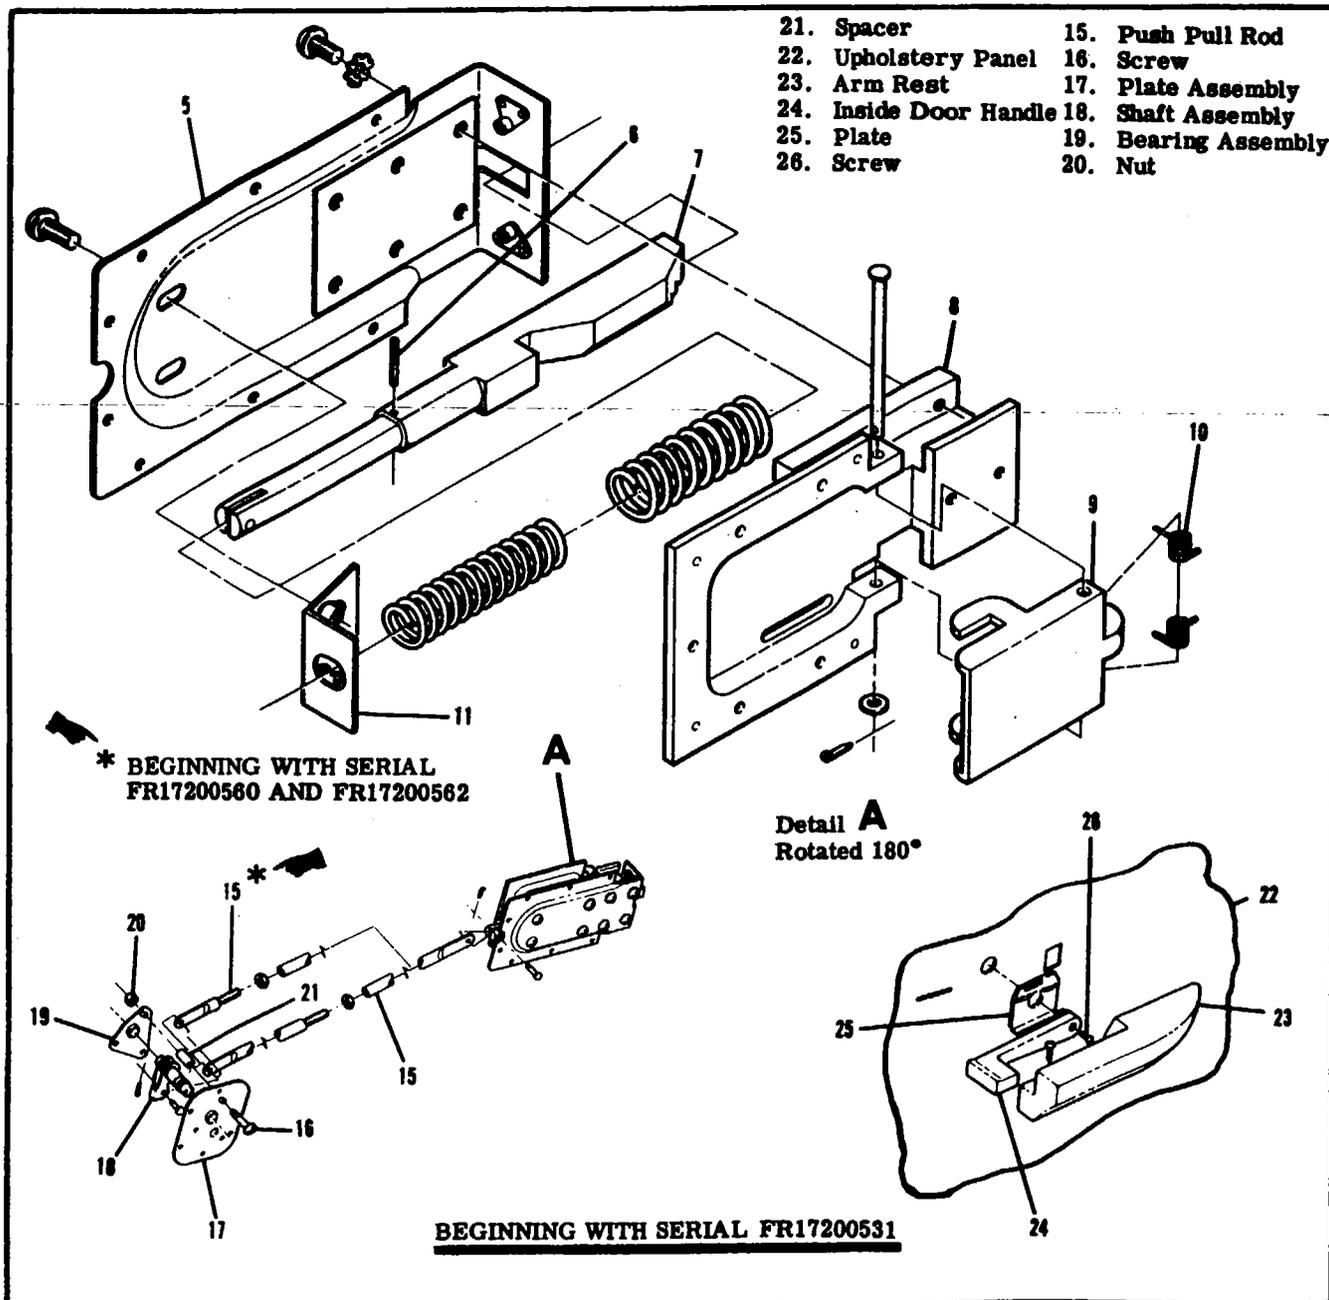

Figure 3-4. Door Latch Installation(Sheet 2 of 2)
b. **BEGINNING WITH FR17200531.** (Refer to figure 3-4, Sheet 2.)
1. Temporarily install handle (24) on shaft assembly (18) approximately vertical.
2. Move handle (24) back and forth until handle centers in spring-loaded position.